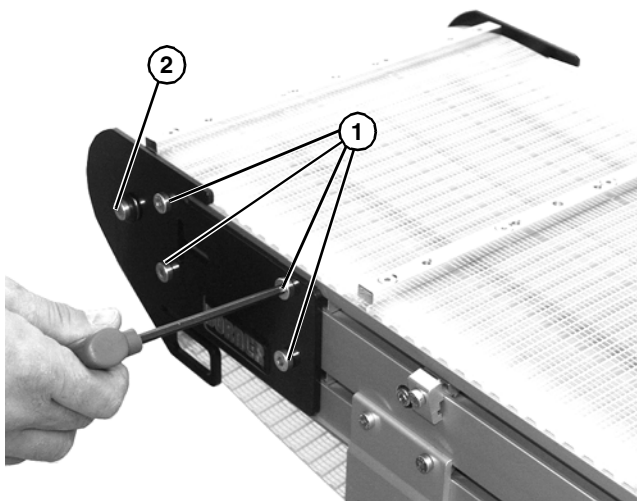

Figure 32
2. On one side of conveyor, loosen the four (4) fastening screws (Figure 32, item 1).
3. Remove screw (Figure 32, item 2).